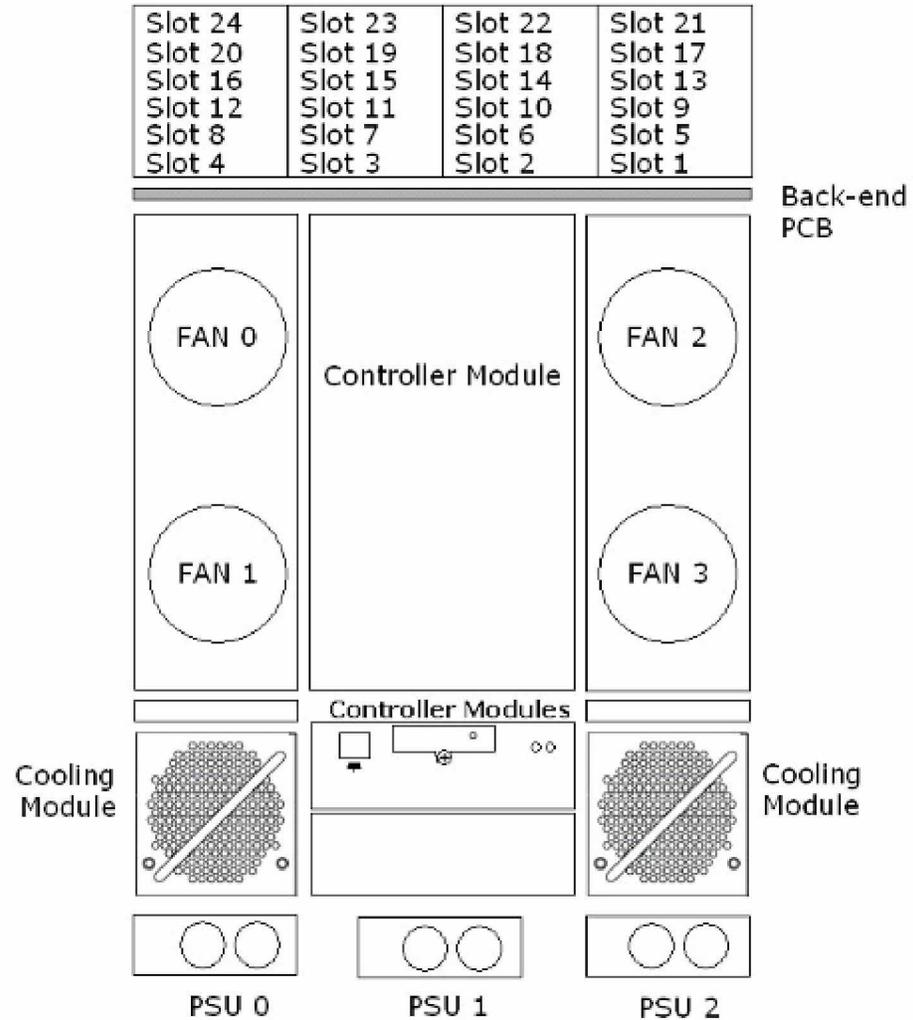

Figure 1-2: Falcon 24-bay SATA RAID Subsystem Overview
The Falcon 24 BAY subsystem enclosure is a 4U metal chassis. A back-end PCB is enclosed in thick gauge sheet metal that divides the enclosure internally into front and rear sections. (See *Figure 1-2*) The front section accommodates twenty-four (24) drive trays (with their associated hard drives) and the rear section accommodates three (3) PSU modules, two (2) dual-fan cooling modules, and a single RAID controller module. The two (2) foldable handles on the front of the chassis enable you to easily insert/extract the chassis into/from a rack cabinet. Pre-drilled holes in the sides of the 4U RAID subsystem enclosure allow you to attach separately purchased slide rails so that you can install the enclosure into a standard 19 inch rack cabinet.